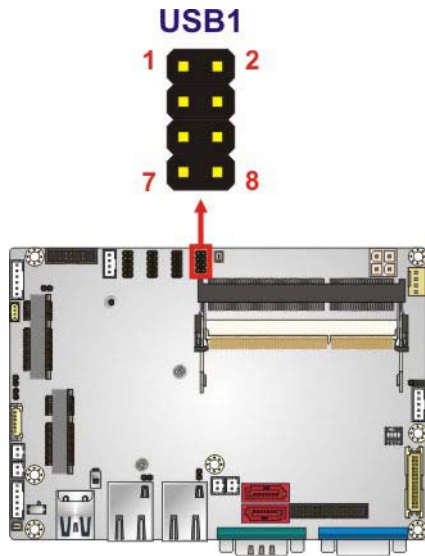

Figure 3-28: USB 2.0 Connector Location
- CN Location:** See **Figure 3-28**